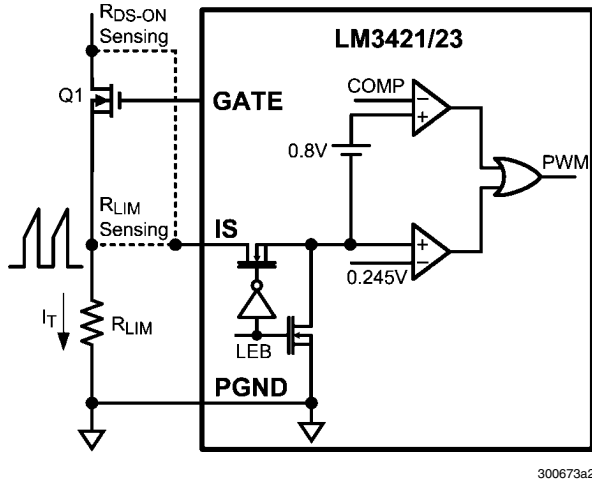

FIGURE 6. Current Sense / Current Limit Circuitry
The LM3421/23 achieves peak current mode control using a comparator that monitors the main MosFET (Q1) transistor current, comparing it with the COMP pin voltage as shown in Figure 6. Further, it incorporates a cycle-by-cycle over-current protection function. Current limit is accomplished by a redundant internal current sense comparator. If the voltage at the current sense comparator input (IS) exceeds 245 mV (typical), the on cycle is immediately terminated. The IS input pin has an internal N-channel MosFET which pulls it down at the conclusion of every cycle. The discharge device remains on an additional 210 ns (typical) after the beginning of a new cycle to blank the leading edge spike on the current sense signal. The leading edge blanking (LEB) determines the minimum achievable on-time (t_{ON-MIN}).